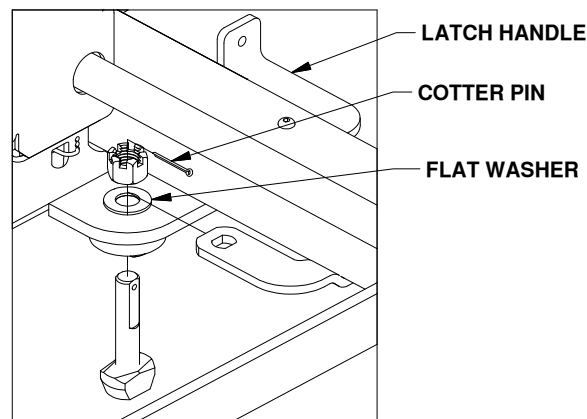

Figure B3: List of latch parts.
3. **Adjust the tension in the latch handle**, for parts list and visual guide refer to Figures B3 and B4.